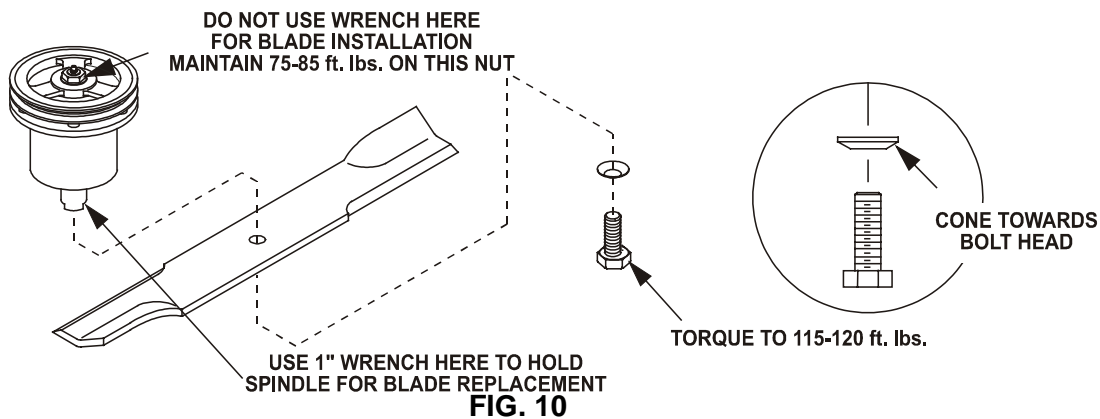

FIG. 10 BLADE BOLT INSTALLATION
- g) Re-install the blades (if they were removed) and torque blade bolts to 115-120 ft. lbs. Be sure the spring disc washer cone is installed toward the bolt head (See Figure 10).